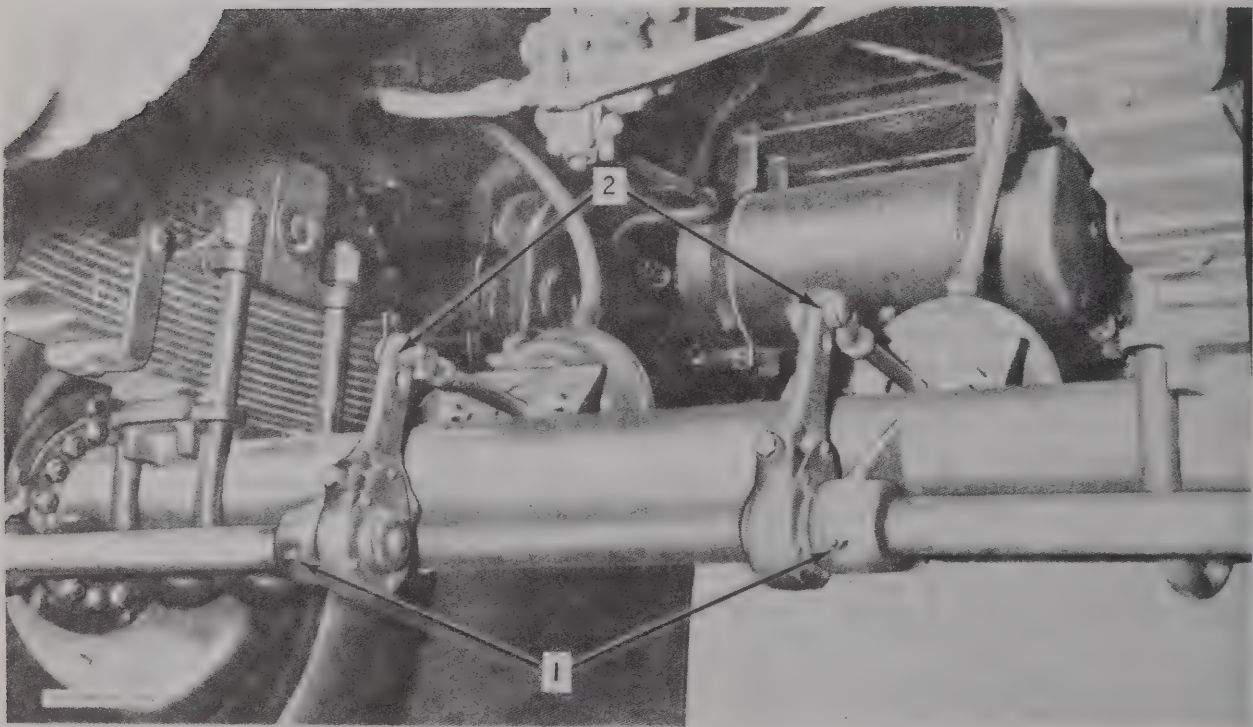

Figure 5-5. Airbrake linkage lubrication.
j. Lubricate the grease fitting on each airbrake mechanical linkage (1, figure 5-5) with automotive lubricating grease.
k. Lubricate the linkage arms (2, figure 5-5) with preservative lubricating oil.